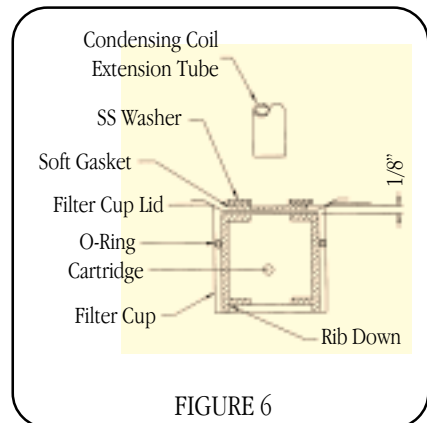

FIGURE 6
- Install the #6009 inlet gasket on the post filter lid. Install the #9099 stainless steel washer on top of the inlet gasket. Make sure the condenser extension tube is aligned with the washer and gasket (see figure 6). This holds the tube in place. At this point, the actual post filter cartridge has **NOT** been installed. This will be installed later in the manual.